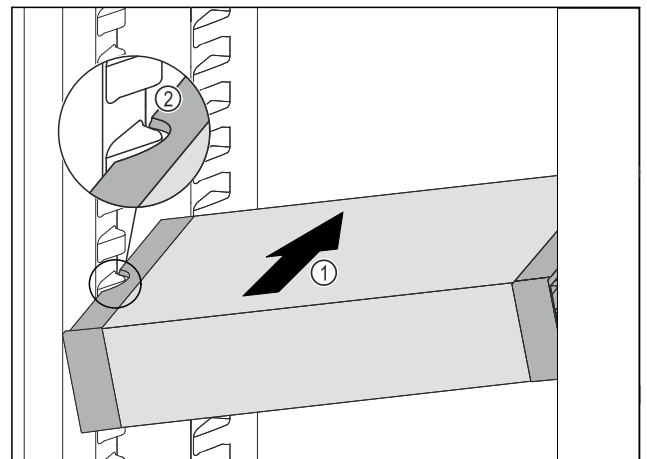

Fig. 129
- ▶ Insert the VarioSafe into the fridge section at an angle Fig. 129 (1) until the recesses in the side Fig. 129 (2) of the VarioSafe are at the level of the support rib in the fridge section.